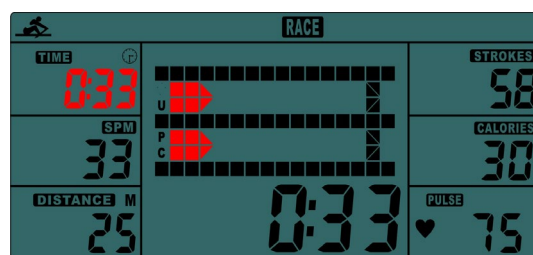

Fig.6
- B. Press START KEY to START and STOP will disappear. The USER & PC will display in the matrix. (Fig.6). The monitor will STOP when one has reached the distance of race which has been set before, then the matrix displays "PC WIN or USER WIN" (Fig.7) and may display the state of the energy after 6 seconds.